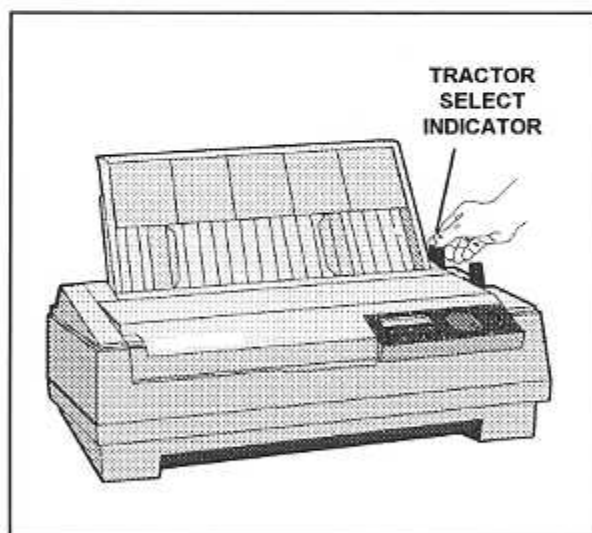

Figure 3-2. Selecting a Paper Path on 535, 535d, 535si and 535dsi Models
- ✓ **On 535, 535d, 535si and 535dsi models:** Manually move the tractor select indicator to the desired position (see figure 3-2).